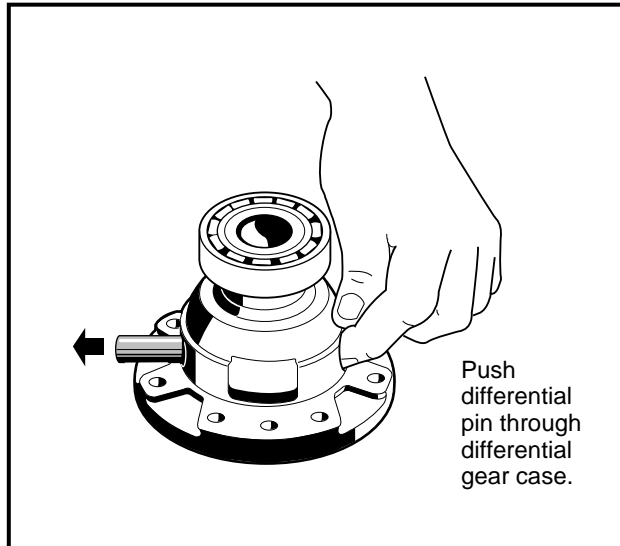

Figure 16-46 Differential Pin
4. Remove the differential pin (88) (**Figure 16-5, Page 16-4**) by pushing it through from one side (**Figure 16-46, Page 16-21**). Remove the two differential idler gears (89) and two idler gear thrust plates (85) (**Figure 16-5, Page 16-4**) as the pin is driven through.